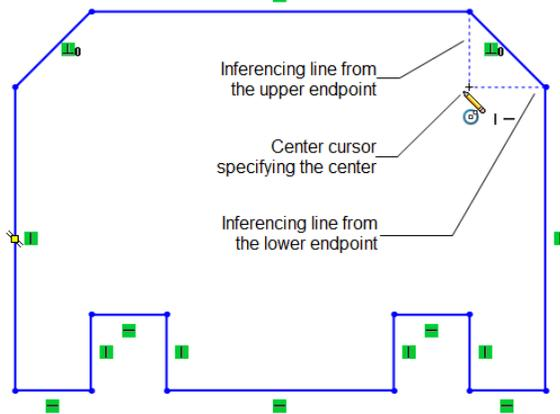

Figure 2-72 Drawing a circle with the help of inferencing lines
- d. Draw circles and sketch of inner cavity, refer to Figures 2-72 through 2-74.